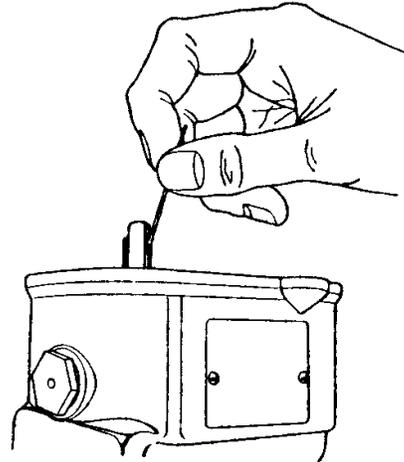

Figure 7.11.6
- K. Apply cam grease sparingly to each lobe of the cam. (See Figure 7.11.6).
- D. Apply cam grease sparingly to each lobe of the cam. (See Figure 7.11.6).